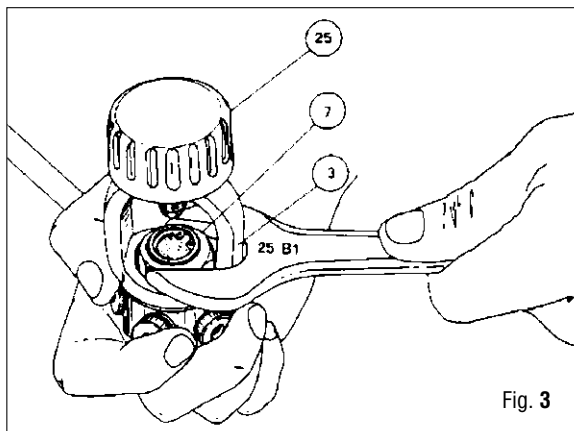

Fig. 3
7. Remove yoke retaining nut (7) with wrench (B-1) then remove yoke (3) with knob (25) (Fig. 3).
3. Insert tool (BS) in a LP port of the first stage body.
4. Place yoke (3) with knob (25) on first stage body
5. Install yoke retaining nut (7) and tighten into place with wrench (B1) (Fig. 3).